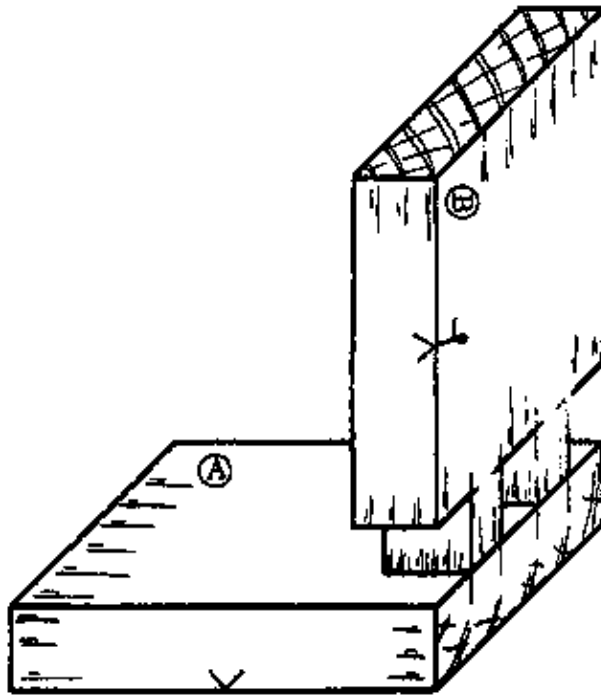

Fig. 9
- Place piece B (with the tenons) over the end of piece A, with the face side to wards the outside as indicated in Fig. 9.
- Mark the shape of the tenons onto piece A with a pencil (Fig. 9).